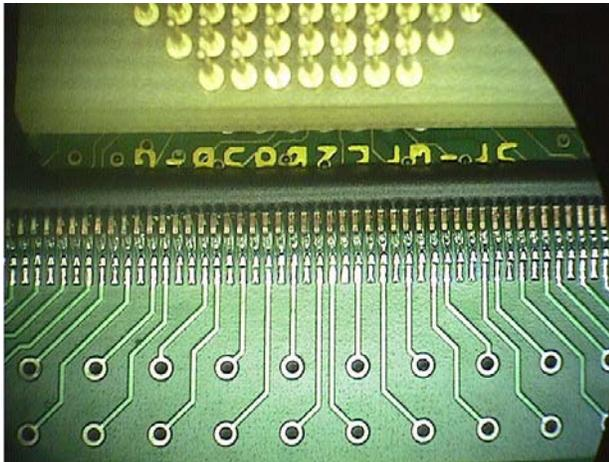

Figure 7: Finished Solder Fillets
- (g) Repeat steps (e) and (f) for the remaining three sides. The finished solder connections are shown in Figure 7.